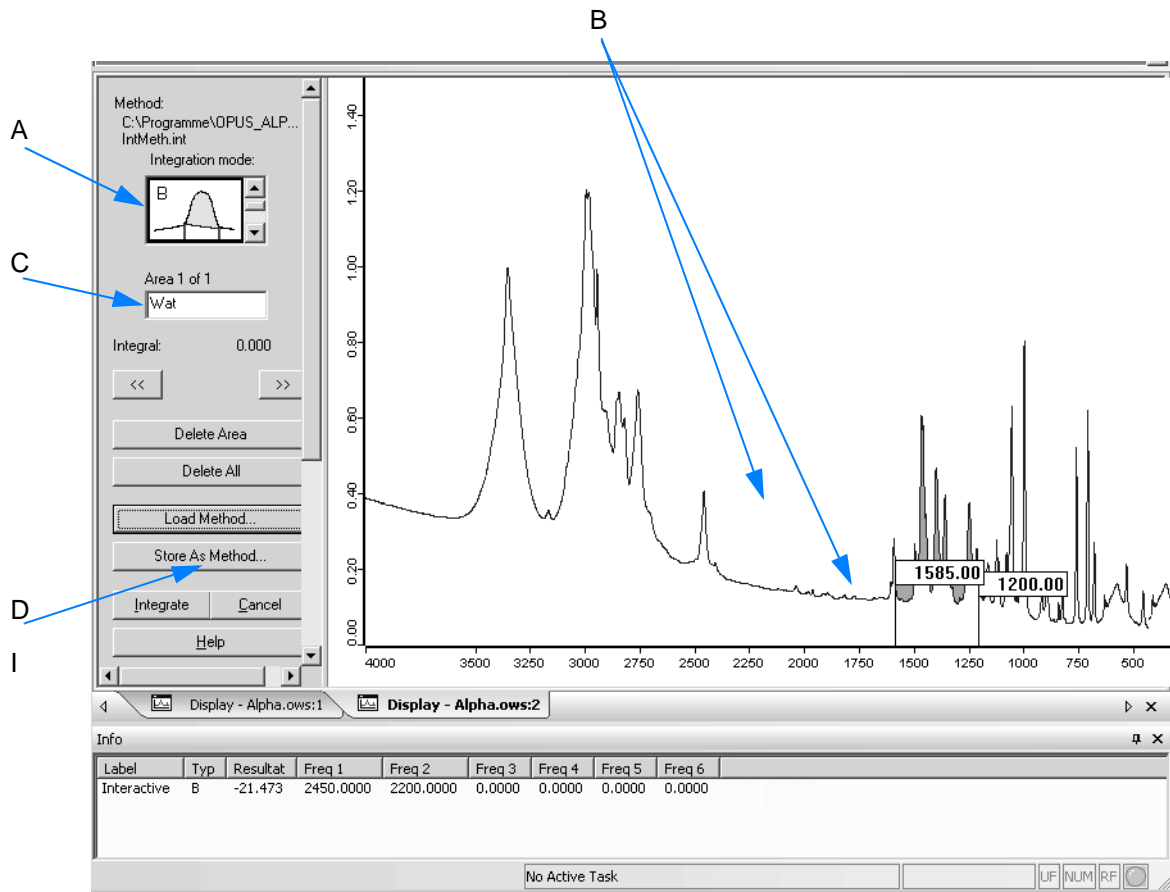

Figure 130: Integration - Interactive method setup
- 3 Each integration area can be defined by a certain name. Enter this name into the entry field (C in figure 130). To change between different integration areas use either the forward () or backward () arrow buttons.
- 4 Store the current settings made as integration method by clicking on the *Store As Method* button (D).